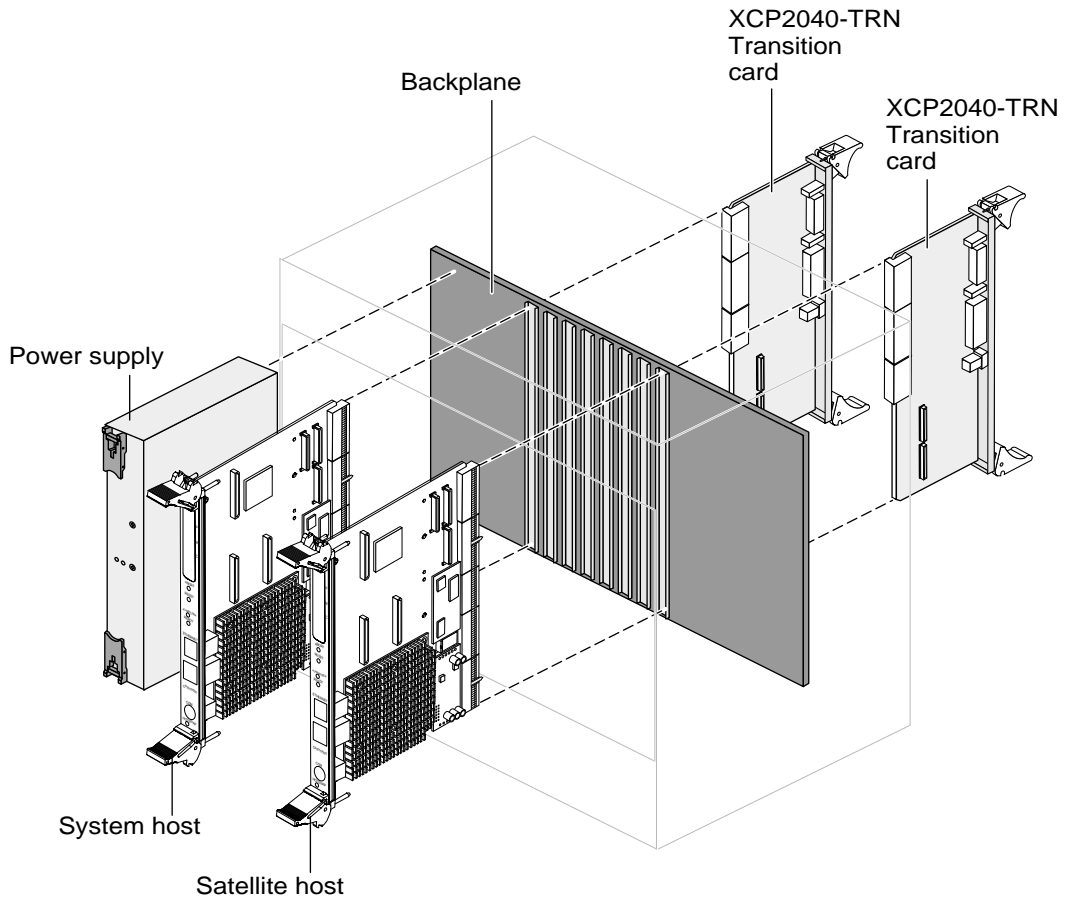

FIGURE 21 Typical Assembly of the CP2040/CP2140 Board System with Transition Cards
- b. Insert the card into the rear slot that aligns directly behind the slot into which you want to install the Netra CP2040/CP2140 board as shown in FIGURE 21.**